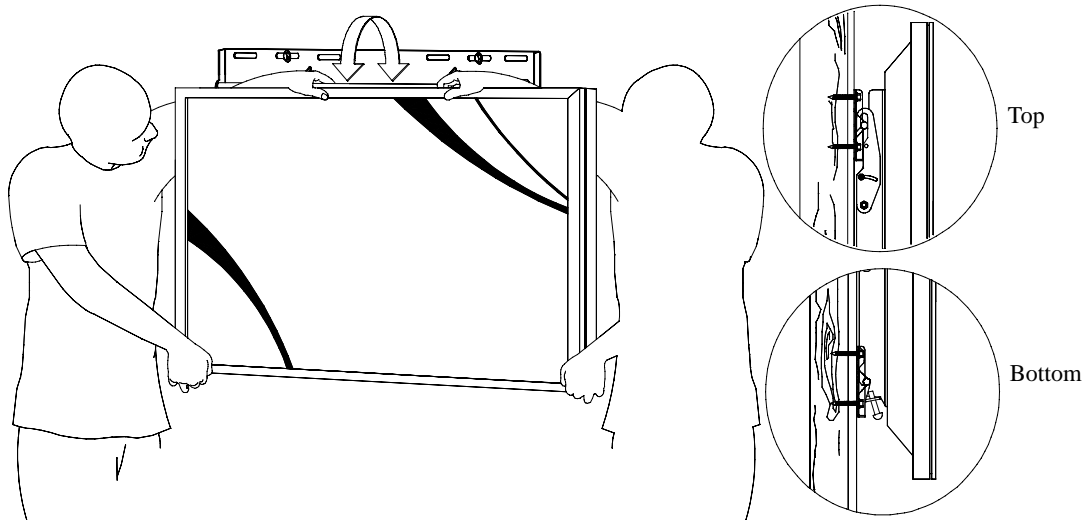

Figure 15
1. Raise the flat panel with the mounting brackets secured to the flat panel and insert the top and bottom hooks from each bracket to the rods from the wall plates (Figure 15).